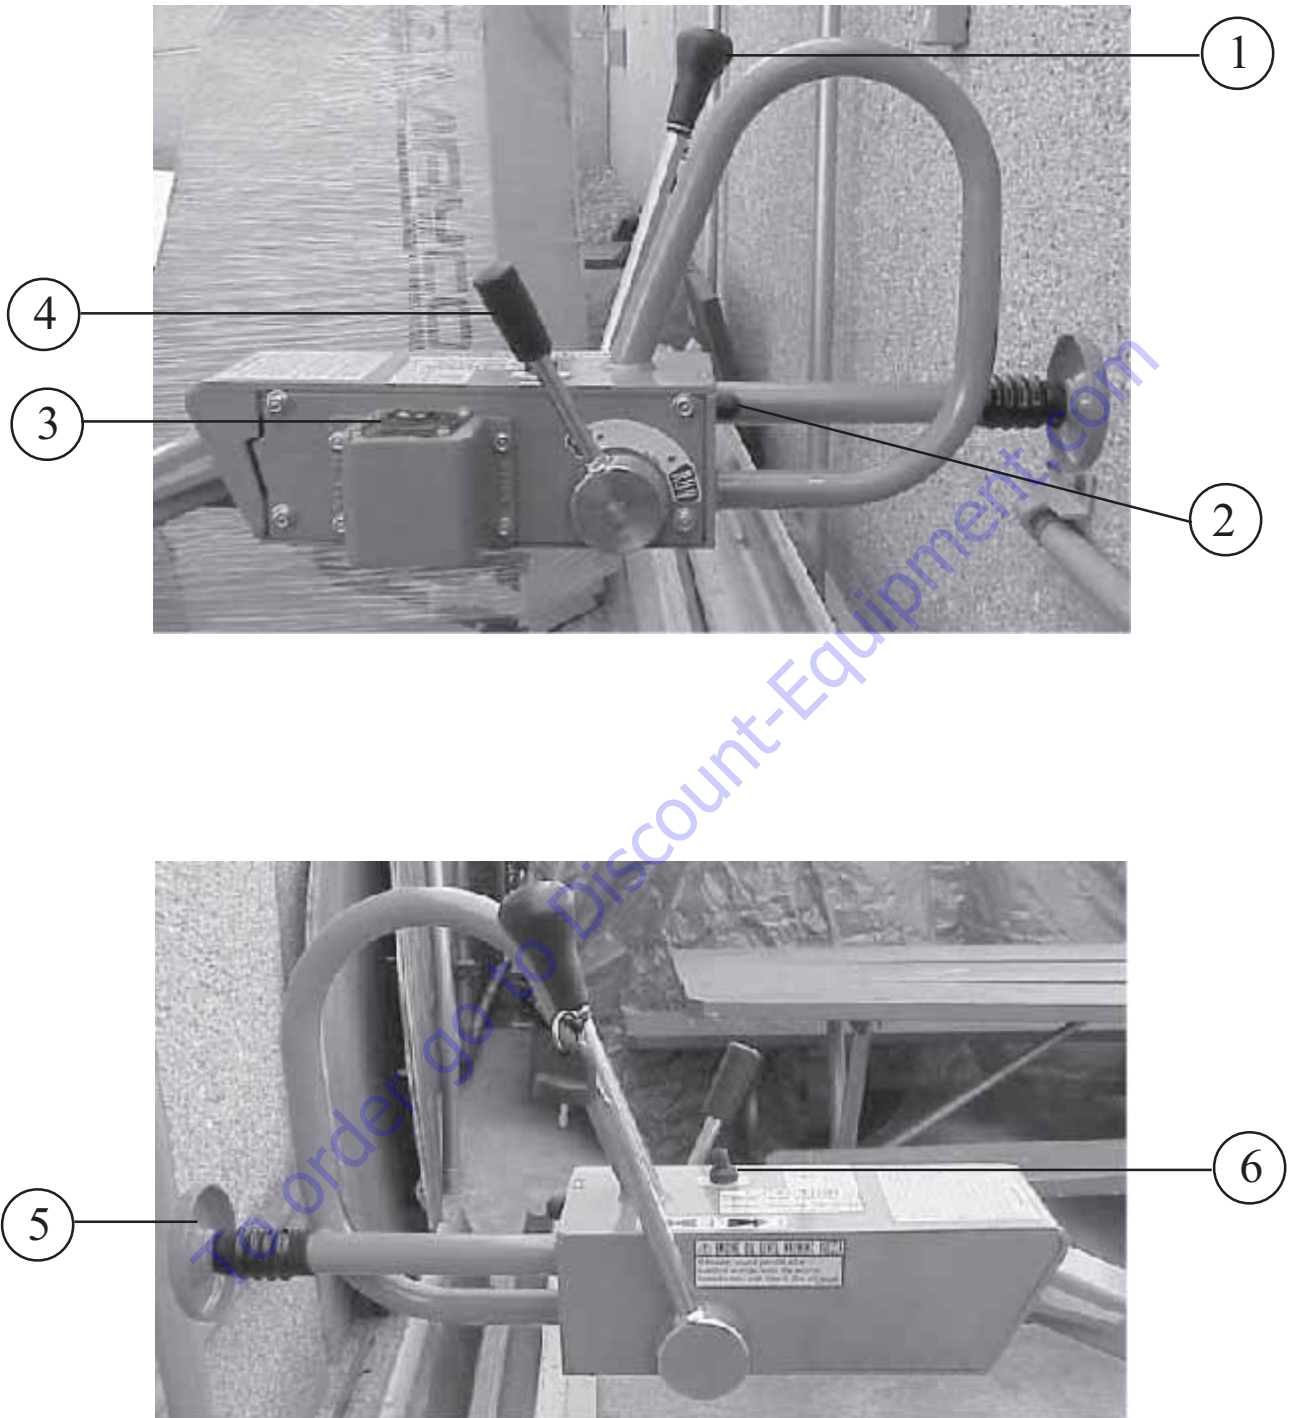

Figure 3. Handle Bar/Lever Components
Figure 3 illustrates the location of the major lever components on the handle bar of the machine. Each component is described below:
1. Check travel, vibration and throttle levers to make sure they are functioning properly (Figure 3).